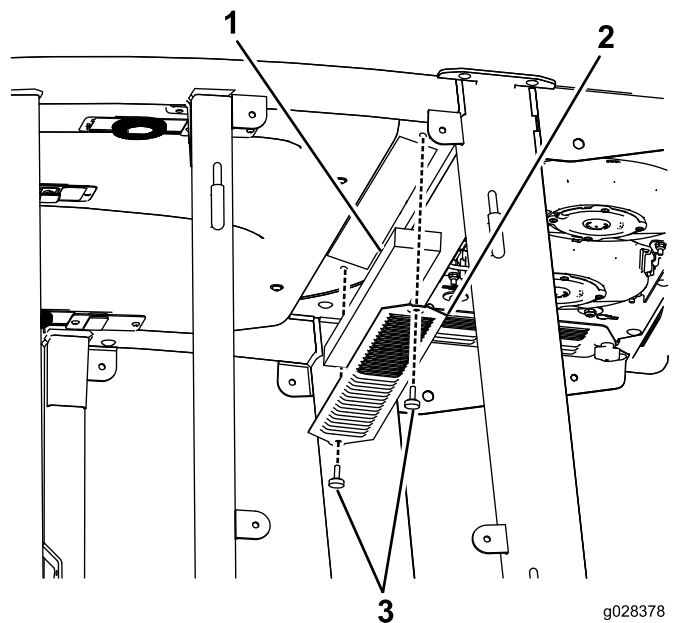

Figure 138
3. Remove the cabin roof of the cab by removing the 22 bolts that secure the roof (Figure 138).
4. Remove the air filters (Figure 138).
5. Remove and clean the air-conditioning coils (Figure 138).